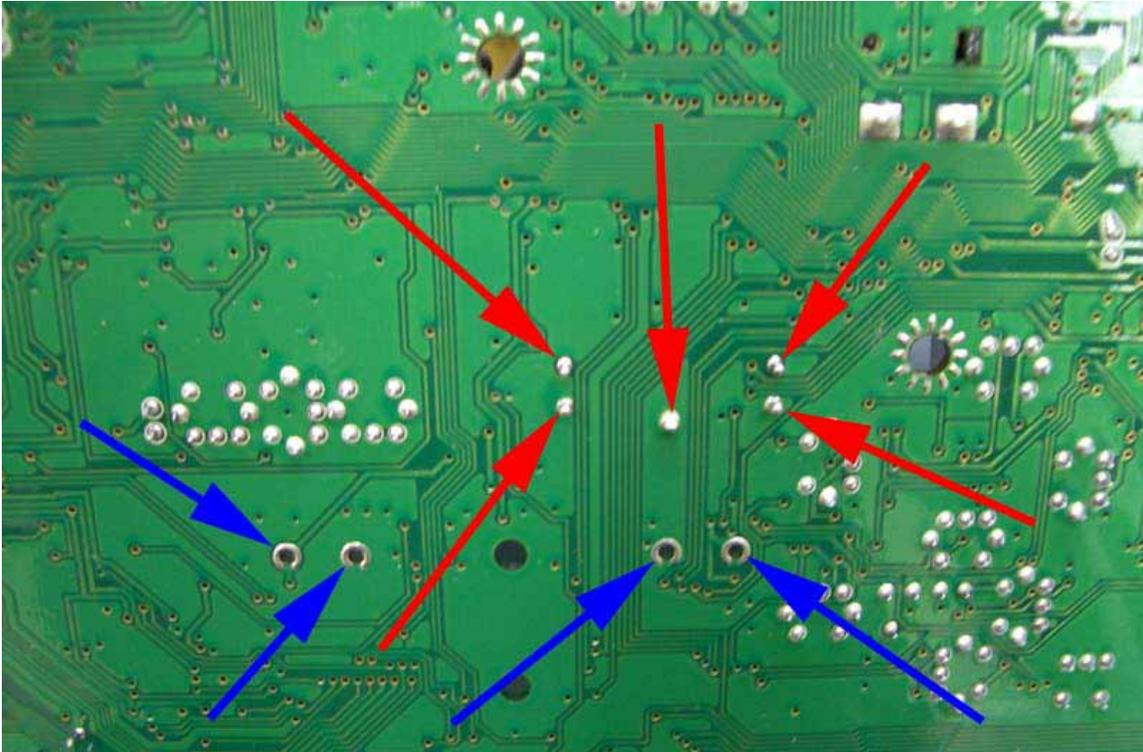
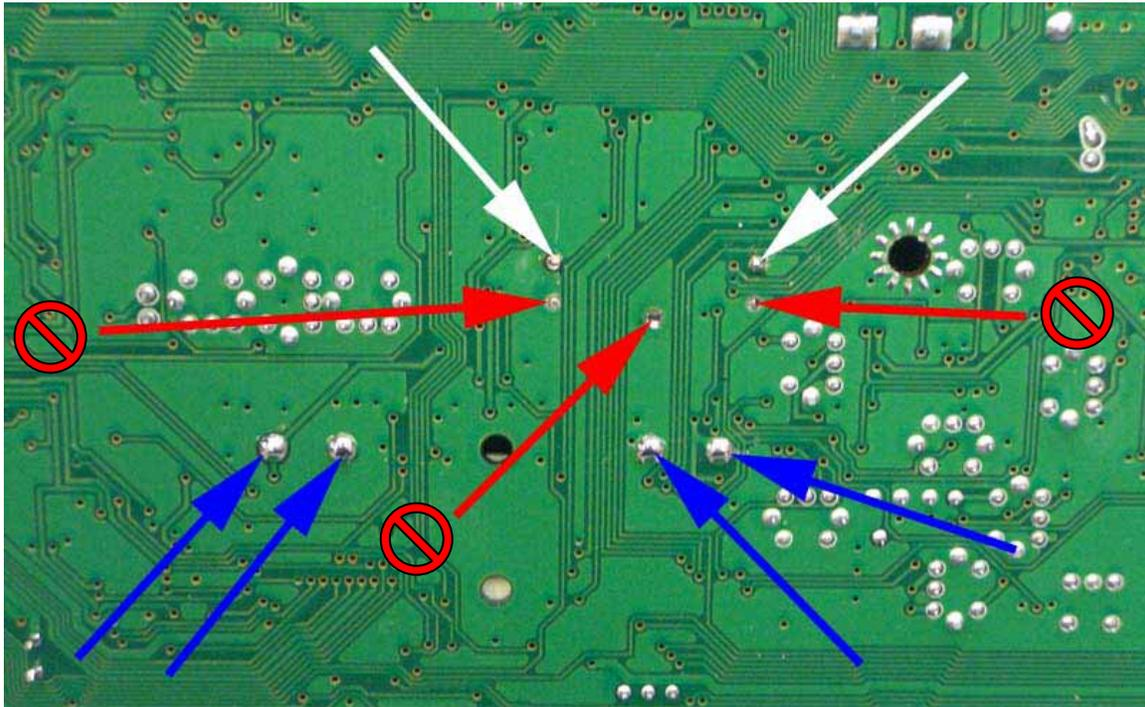
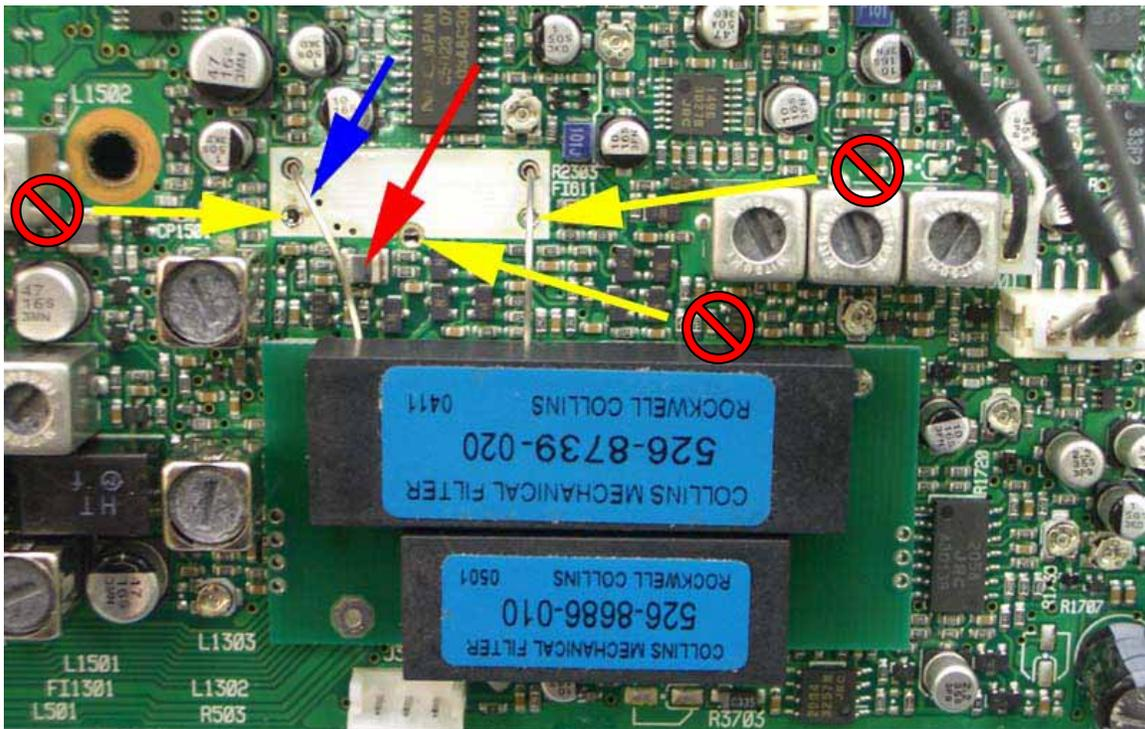

Figure 2
Figure 3
Figure 4
9. If you are to remove the MuRata filter from the PCB, then first CAREFULLY remove the solder from the five (5) points shown in Fig. 2 by the red arrows.
12. Notice the four holes denoted by the blue arrows in Fig. 2. These are discussed in Step 13.
13. CAREFULLY *place* the four (4) wires from the bottom of the OBF-718 into the four (4) holes (blue arrows) shown in Fig. 2. Also, route the two (2) wires from the top side of the OBF-718 through the holes indicated by the white arrows shown in Fig. 3. It is best to attempt to route all six (6) wires at the same time you place the OBF-718 onto the IC-718 PCB. Do not put wires in the holes denoted by the red arrows in Fig. 3 (same as the yellow arrows in Fig. 4 when viewed from the other side of the PCB). **WARNING: Be sure that the wire from the OBF-718 denoted by the blue arrow in Fig. 4 does NOT touch the inductor shown by the red arrow.**
14. CAREFULLY solder the six (6) locations denoted by blue and white arrows in Fig. 3. Cut off excess wire length from the OBF-718.